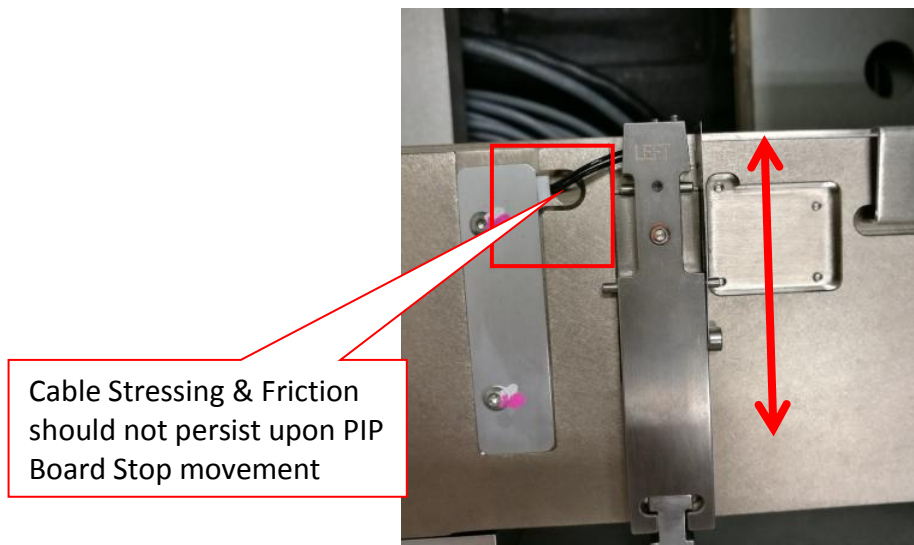

Figure 12 PIP Sensor Cable Checking
3. Assemble PIP Cable Guide as shown in Figure 12.